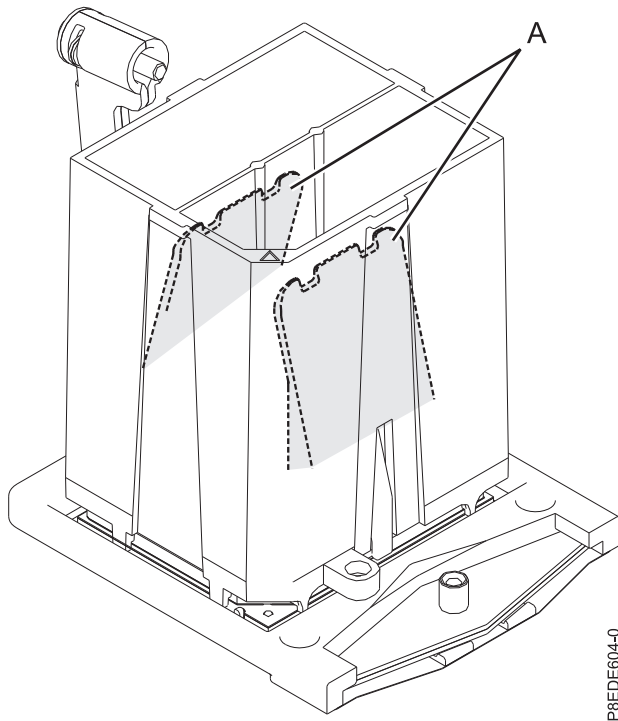

Figure 17. Removing the system processor module tool
8. After the system processor module is properly aligned, squeeze and hold the two blue release tabs (A) together until a firm stop is reached, as shown in Figure 17 on page 18. Then, lift the tool off the system processor module.